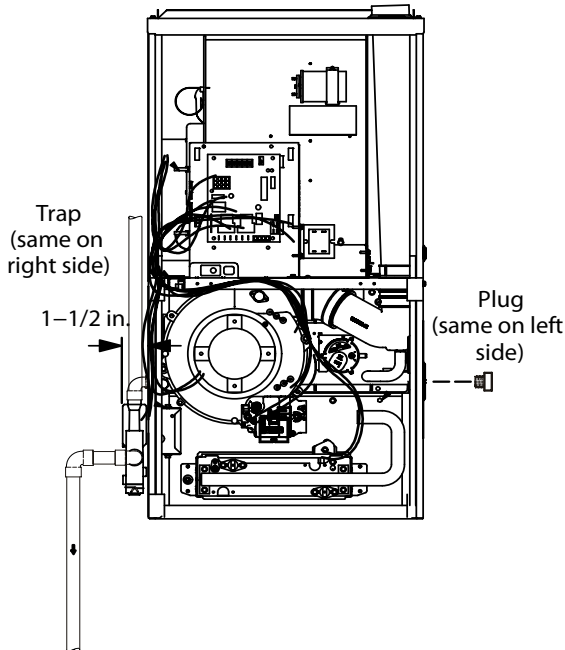

Figure 38
This unit is designed for either right or left side exit of condensate piping in downflow applications. Refer to Figure 38 for condensate trap locations.
2. Remove plug (Figure 38) from the cold end header box at the appropriate location on the side of the unit. Install field-provided 1/2 NPT male fitting into cold end header box. Use Teflon tape or appropriate pipe dope.